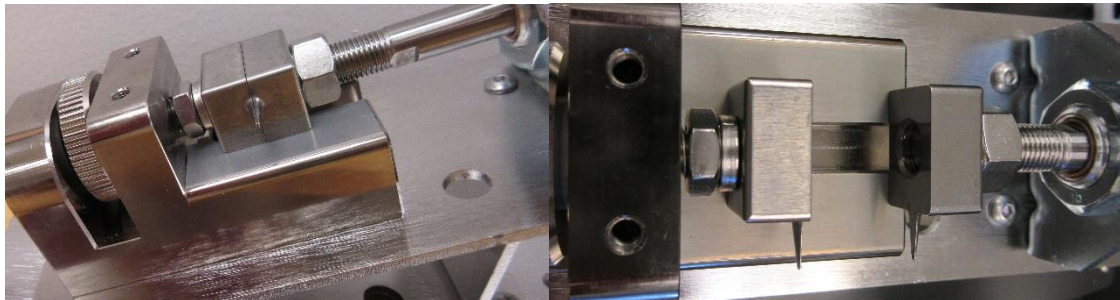

Figure 3.4.1 – Fully extended
- Turn the thumb wheel clockwise until the cylinder shaft is fully extended in the jaw block channel. *Figure 3.4.1*